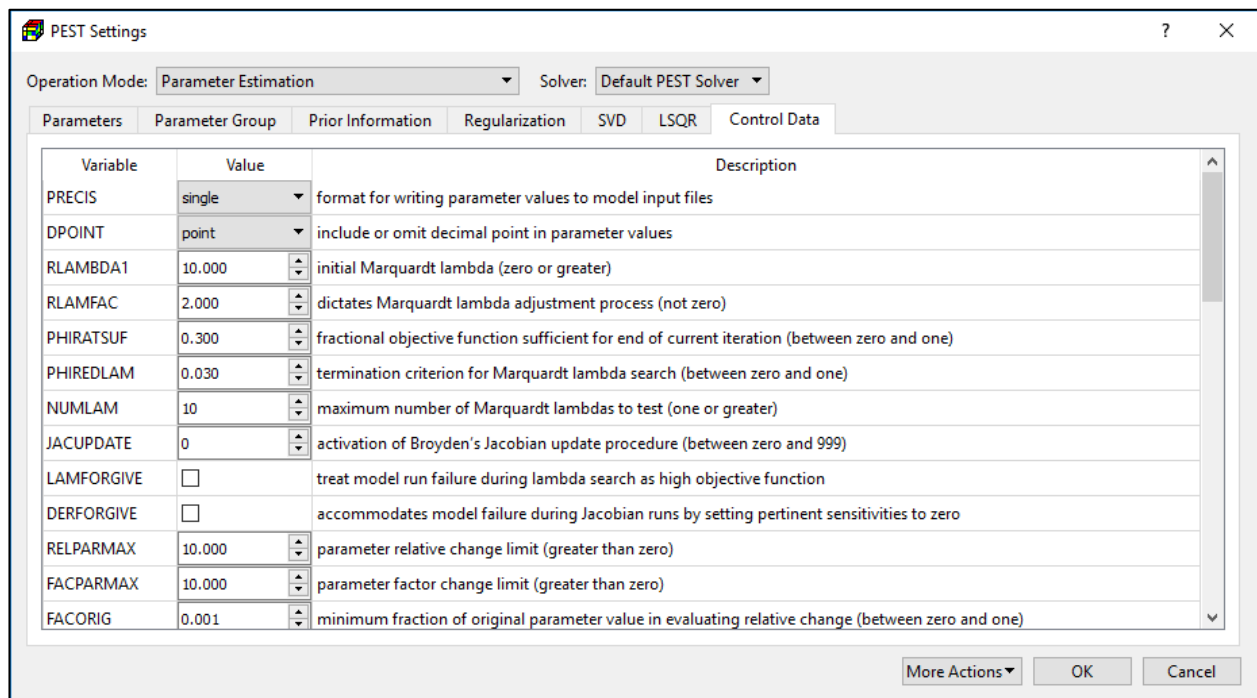

Figure 143. The Control Data tab of the PEST Settings dialog box
10. Control Data Tab (Figure 143): This section provides a brief explanation of the control data. For detailed discussion, see Section 4.2 of the Part I of the PEST Manual (Doherty, 2016).